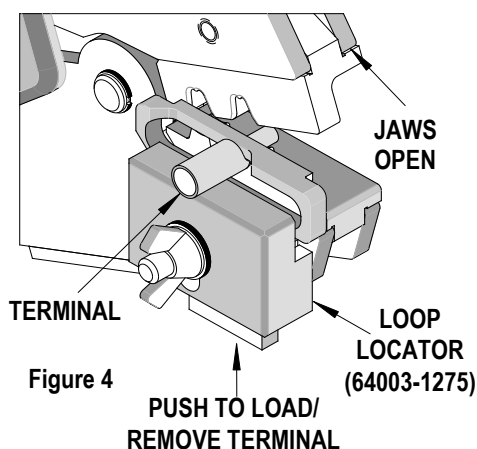

Figure 4
2. Push up on the locator blade and insert the terminal in the proper nest with the barrel up and against the locator blade. Release the locator blade to hold the terminal in position. See Figure 4. Locator may be raised or lowered so terminal sits flat and straight in the tool.
5. Push the locator blade to remove the crimp and inspect for proper crimp location. Locator is adjustable up and down to keep terminals straight after crimping. See Figure 4. Molex offers a Crimp Inspection Handbook for closed barrel industrial product. See our website or contact your sales engineer.